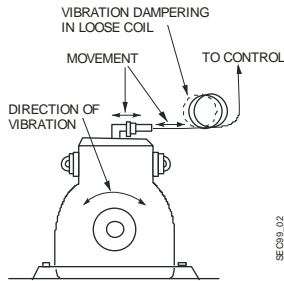

Figure 2: SEC99 Dampered Loose Coil Arrangement
- Often damaging vibration can be dampened in a loose coil arrangement. See Figure 2.